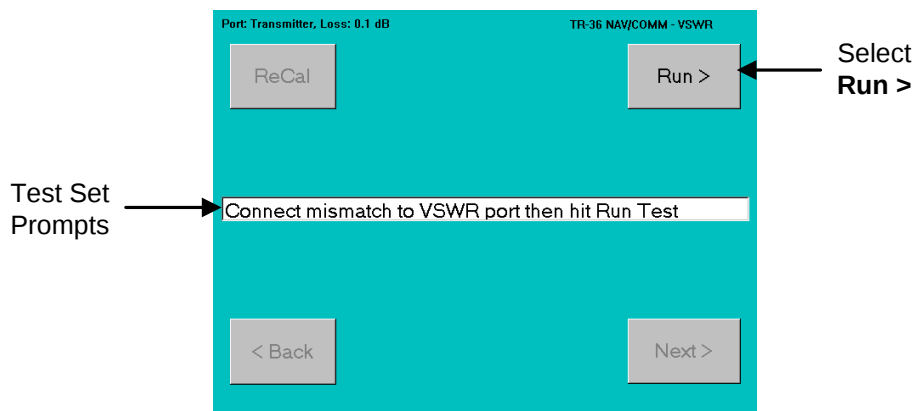

Figure 2-62. Test Set Prompts 1
6. Remove the supplied "Termination Cap Mismatch Load" (Figure 2-61) from the Test Set Accessory pouch port and install it as per the instructions on the Test Set **VSWR < 0.1W** Port (Figure 2-62). The Test Set also will prompt the operator on each step to take during the VSWR test process.
7. With the Termination Cap Installed, Select the **Run >** Soft-Key. The Test Set Status window will also prompt the user to the next step (figure 2-62).